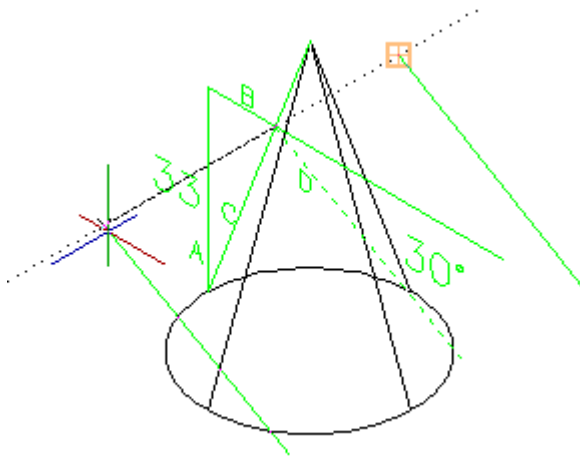

Figure 3
3. Use the COPY Command to copy the line "D" to both sides with the approximate distances as shown in figure 3.